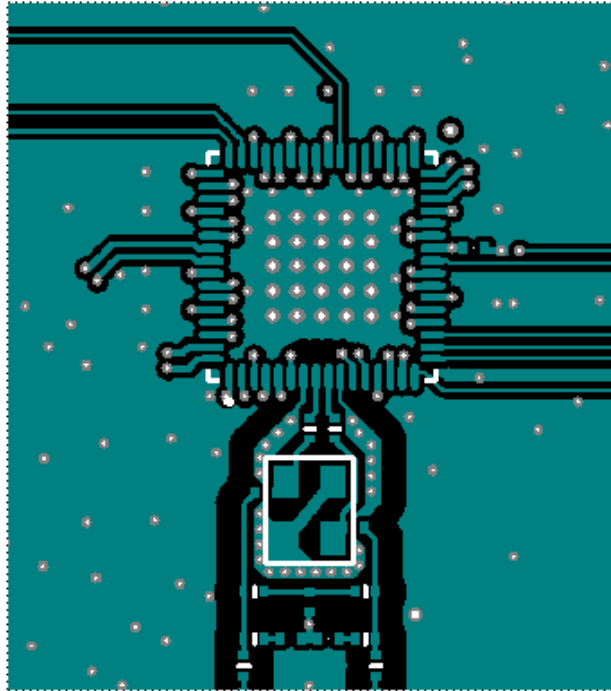
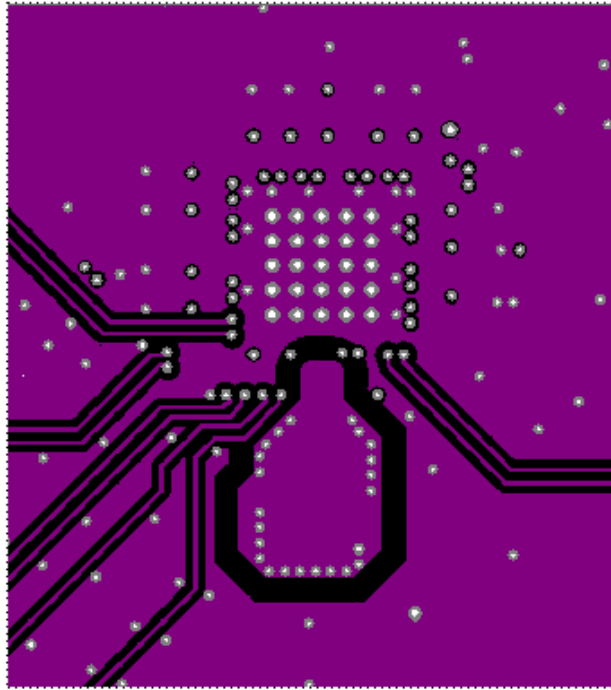

Figure 12.1. 64-pin Si5341 Crystal Layout Recommendations Top Layer (Layer 1)
Figure 12.2. Zoom View Crystal Shield Layer, Below the Top Layer (Layer 2)
Figure 12.1 64-pin Si5341 Crystal Layout Recommendations Top Layer \(Layer 1\) on page 45 is the top layer layout of the Si5341 device mounted on the top PCB layer. This particular layout was designed to implement either a crystal or an external oscillator as the XAXB reference. The crystal/ oscillator area is outlined with the white box around it. In this case, the top layer is flooded with ground. Note that this layout has a resistor in series with each pin of the crystal. In typical applications, these resistors should be removed.
3. Connect the crystal's GND pins to the DUT's X1 and X2 pins via a local crystal shield placed around and under the crystal. Make sure that X1, X2, and both crystal ground pins do NOT connect to the pcb ground. See Figure 12.1 64-pin Si5341 Crystal Layout Recommendations Top Layer \(Layer 1\) on page 45 for an illustration of how to create a crystal shield by placing vias connecting the top layer traces to the shield layer underneath. Note that a zoom view of the crystal shield layer on the next layer down is shown in Figure 12.2 Zoom View Crystal Shield Layer, Below the Top Layer \(Layer 2\) on page 46.